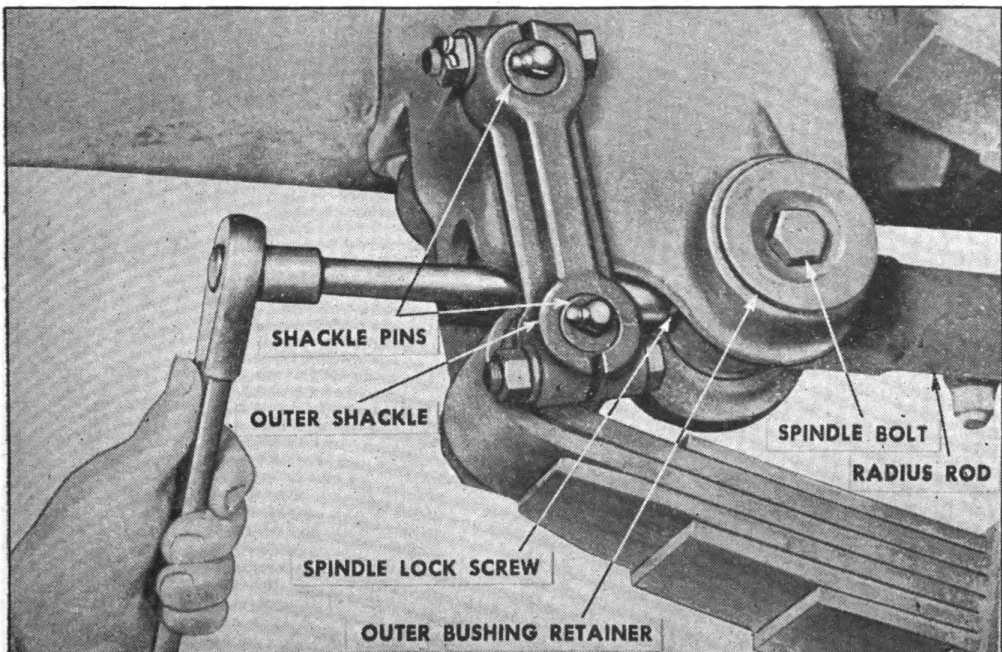

FIGURE 69. RADIUS ROD—REMOVAL.
(1) *Removal.*—(a) Remove spindle lock screws from each end of radius rod (Fig. 69).